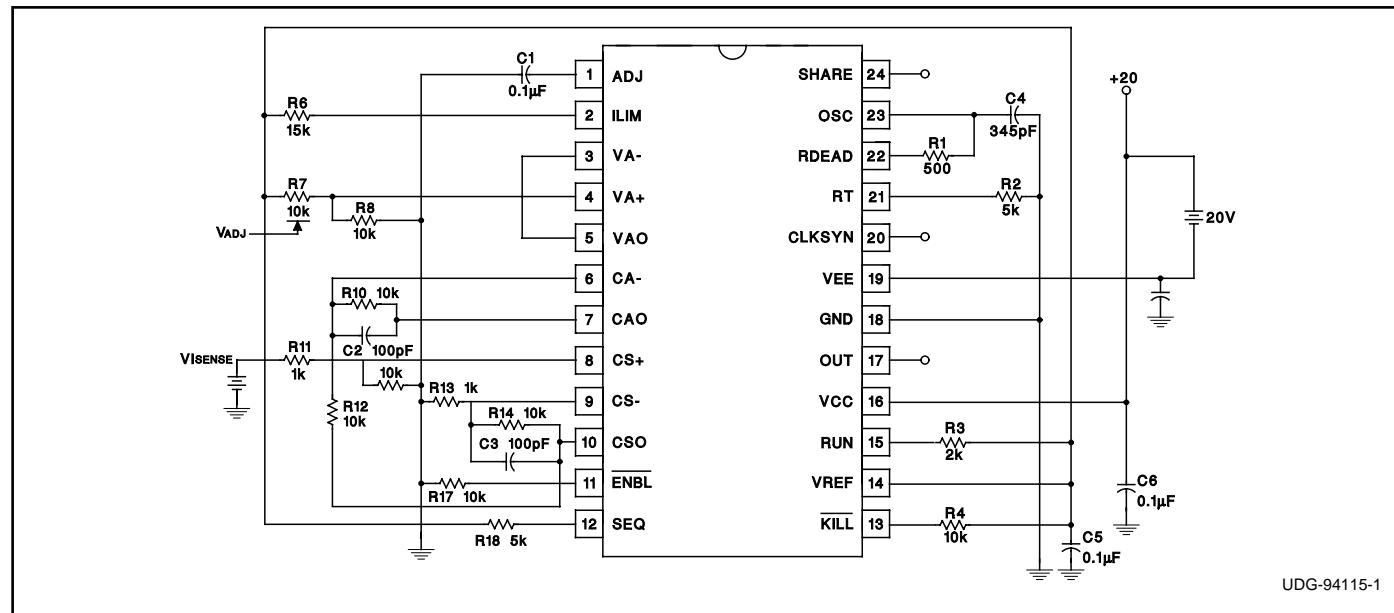

Figure 9. Open Loop Circuit
**Design Example:** Figure 9 is an open loop test that lets the user test the circuit blocks discussed without having to build an entire control loop. The pulse width can be varied by either the  $V_{ADJ}$  or the  $V_{ISENSE}$  inputs. Figure 10 shows an isolated power supply using the UC3849 secondary side average current mode controller.